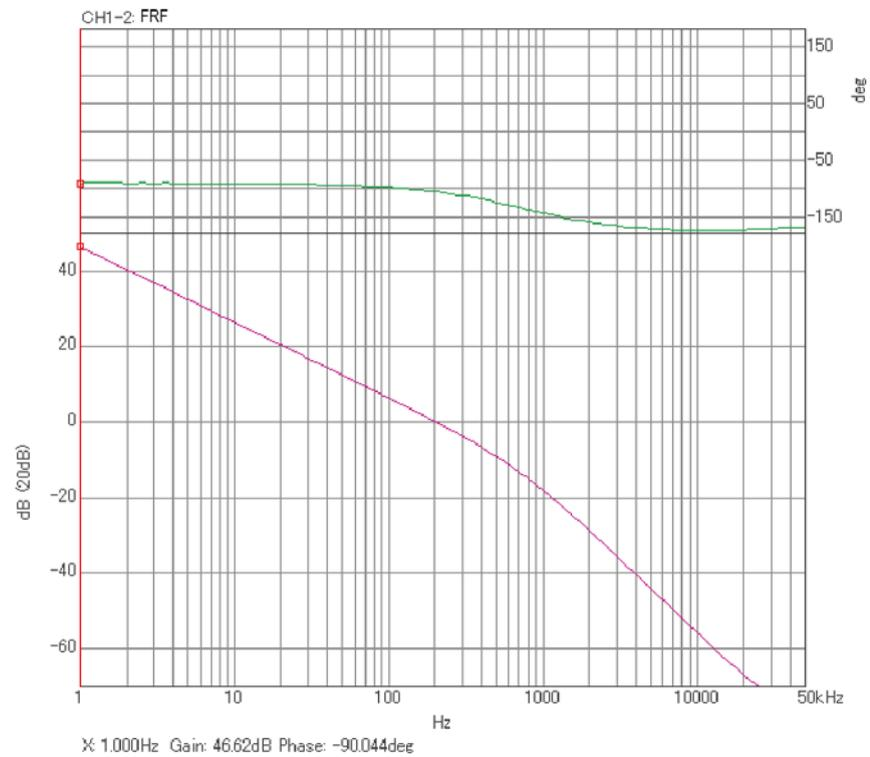
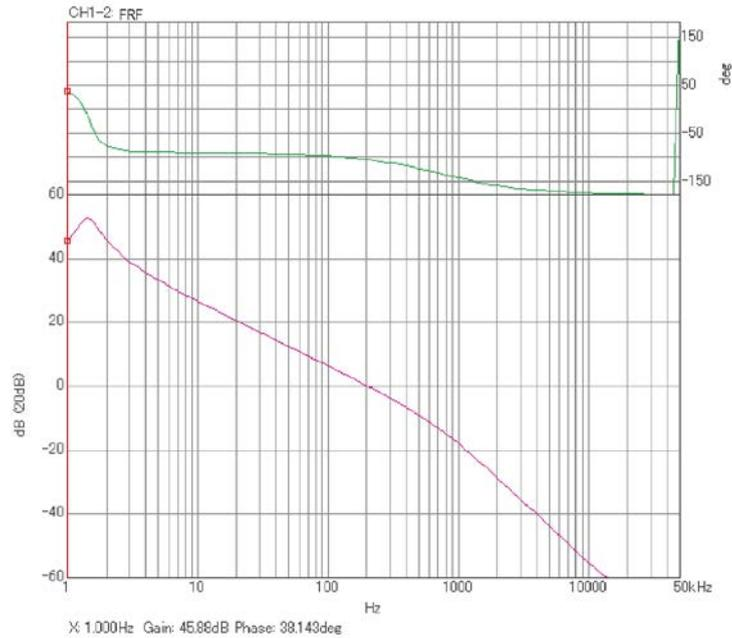
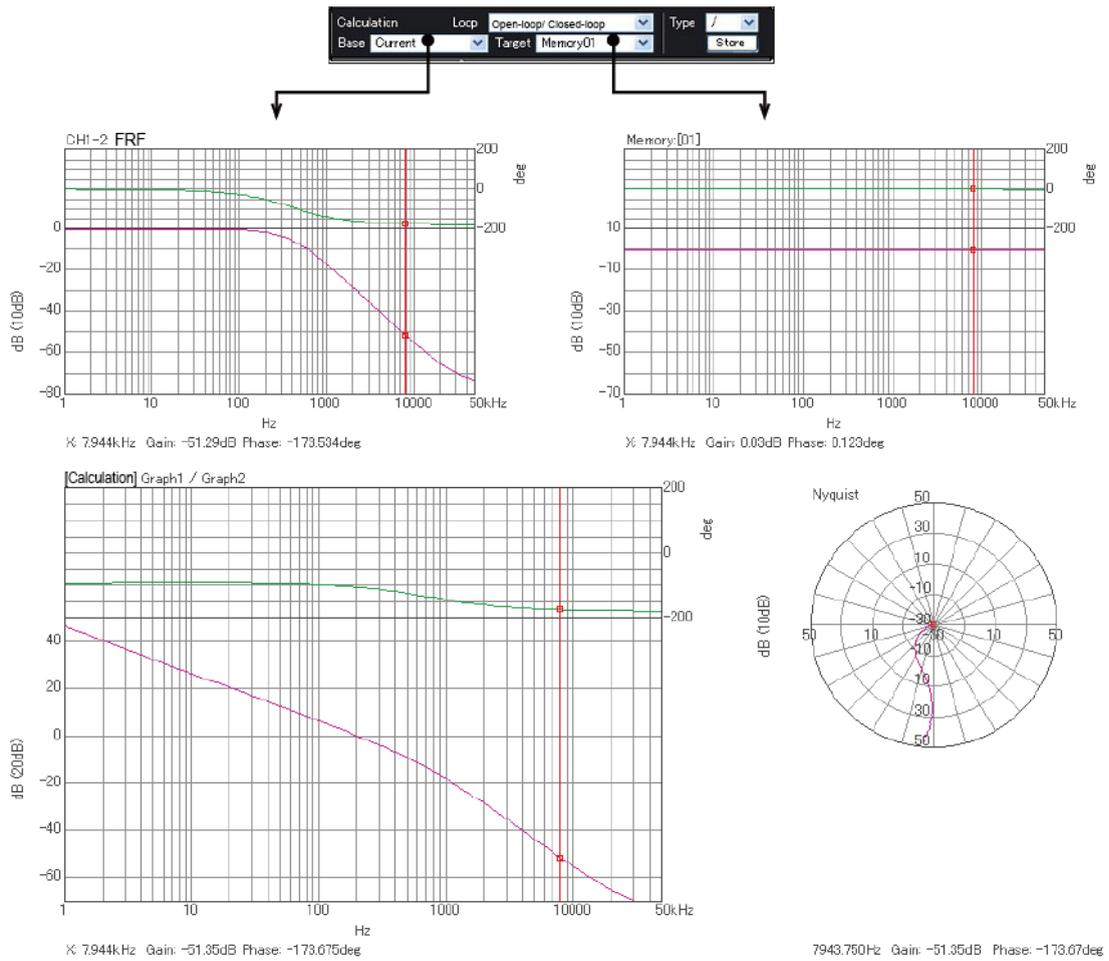

Figure 5: Bode graph of loop transfer function (direct method)
Figure 10: Loop gain obtained by calculation
Figure 11: Close loop calculation of corrected transfer function
As you can see from equation (1), the close loop transfer function H_C has a gain of 1 (0 dB) in a system with a low loop gain range, and the gain difference between channels of the measurement device itself may not be negligible. From this reason, in the low range of figure 10, there is a difference from the loop gain (figure 5) obtained by the direct method.
From the calculation result in figure 11, you can see that the loop gain obtained by the calculation method is almost the same as the direct method (figure 5).